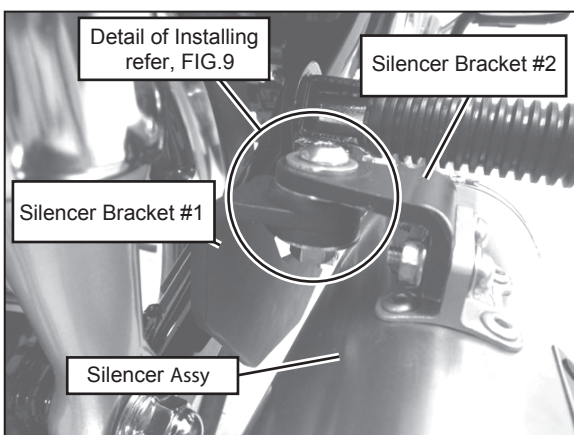

FIG. 9
8) Mount Silencer Bracket #1 on Silencer Bracket #2. Using Button Bolt M8x30 (SUS), Washer M8x20, 2-Washer M8x26 (See Fig. 9, 10). Tighten nuts by hand only at this stage